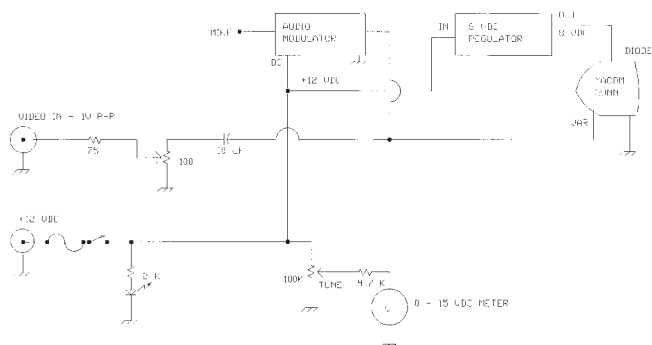

Figure 2. Modulating the MACOM Gunnplexor with your color or B and W camera or camcorder.
3. TV: This is a variation of #2 as depicted in Figure 2. The circuit is not totally complete in that the optional audio modulator and the 8 VDC regulator are shown in block form only. In my case, I used a SHF Micro PS/MOD board for both functions. Very little audio is needed to swing the varactor so I have used a simple 2N2222A audio amplifier as a modulator connected via a capacitor directly to the varactor diode of the MACOM Gunnplexor. Equally simple is the voltage regulator which needs only to provide about 8 VDC to the Gunn diode. The modulator is quite simple as this circuit provides the tuning of the varactor from 0-20 VDC or 0-12.6 VDC as you choose. It gives a frequency swing of about 40 Mhz + or - dependent on carrier frequency within the 500 Mhz allocation at 10 Ghz. The Pros and the Cons are the same as for #2.